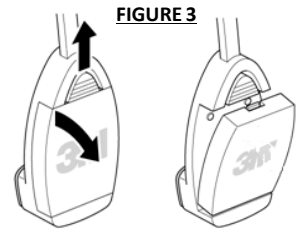

FIGURE 3
1. Make sure power is off and remove the battery from the headset as illustrated in Fig 3.